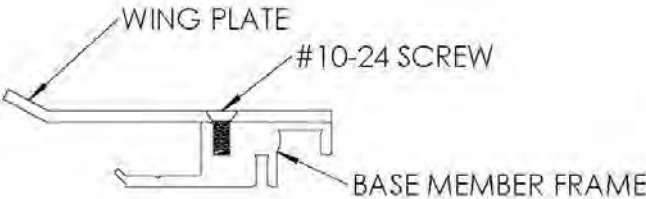

FIGURE 1
1. Remove the factory installed #10-24 screw that attaches the wing plate to the base member frame and retain for reinstallation later. *Note: In the 2”, 4” and 6” sizes this step is not necessary as the wing plate and frame are one piece.* **See Figure 1**